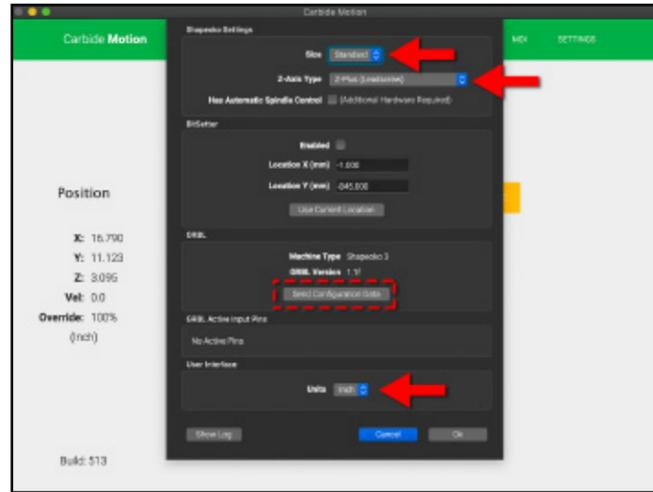

Figure 11-3
- Choose "Standard" from the **Size dropdown list**, "Z-Plus (Leadscrew)" from the **Z-Axis Type dropdown list**, and "Inches" or "MM" from the **Units dropdown list**. See **Figure 11-3**.
- Click the **Update Shapeoko Configuration button** in the middle of the dialog window. See **Figure 11-3**.